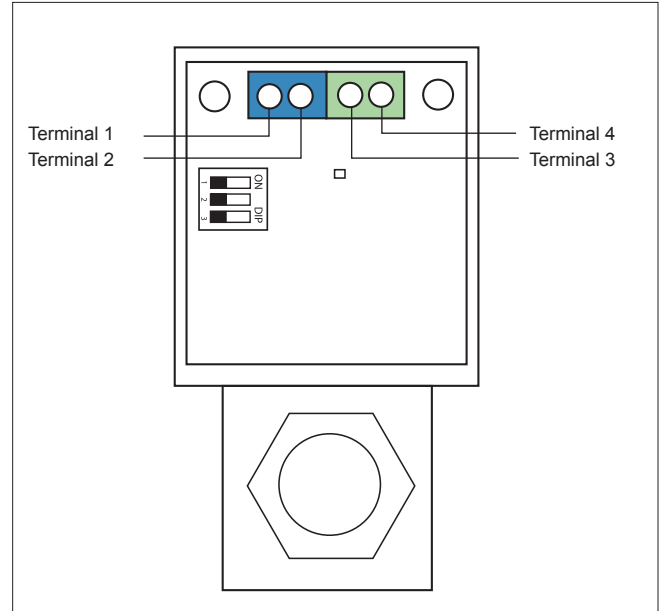

Figure 4: EXA Valve Terminals
There are four (4) electrical connections on the EXA valve. Two (2) are for power requirements and two (2) are for the control signal (see Figure 4).